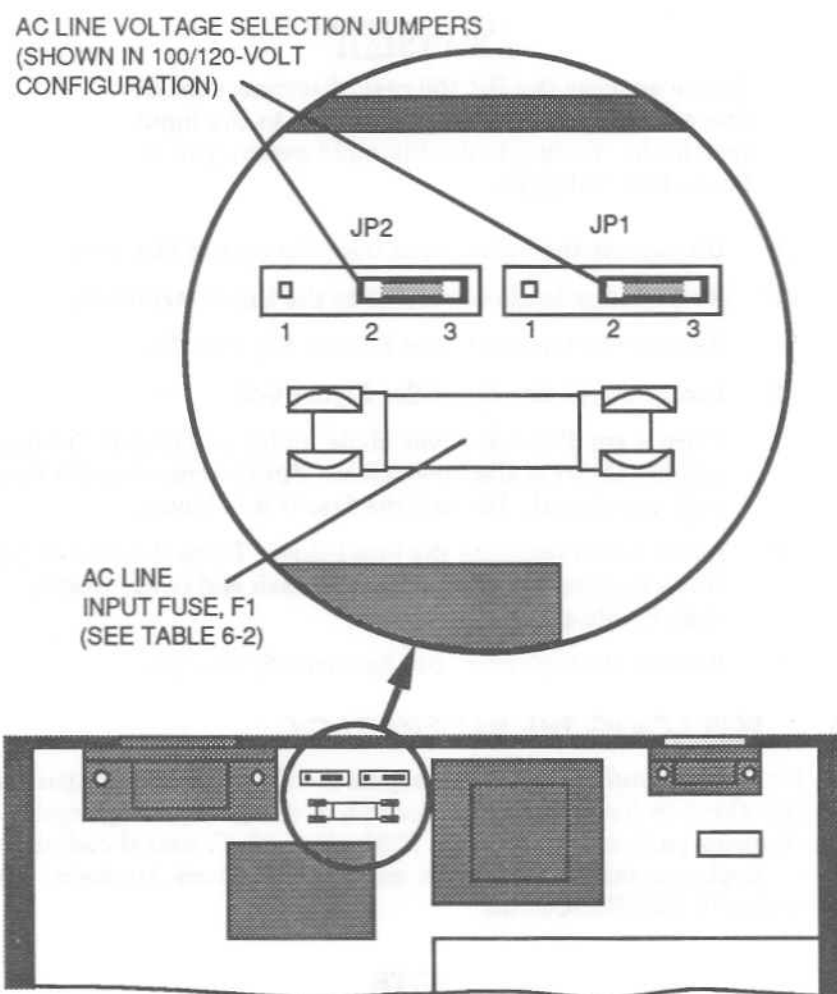

Figure 6-3. AC Line Voltage Selection Jumpers and Fuse
- (3) Locate the ac line voltage selection jumpers. See Figure 6-3.
- (4) Using Table 6-2, position the voltage selection jumpers for the applicable ac line voltage. If you change the line voltage configuration, be sure to replace the ac line fuse with one having the appropriate rating as shown in Table 6-2. To change the fuse, see Section 6.6 REPLACING THE AC INPUT POWER FUSE.
- (1) Disconnect the ac line cord from the rear of the unit.
- (2) Remove any leads connected to the input terminals.
- (3) Remove the top cover. See Section 6.5, step (2).
- (4) Locate the ac line fuse (See Figure 6-3).
- (5) Place a small screwdriver blade under one end of the fuse and pry it out of the fuse holder. Finish removing the fuse with your hand. Discard the fuse if it is blown.
- (6) Insert a new fuse into the fuse holder. Place the fuse on top of the fuse holder. Press down on each end of the fuse to snap it into place.
- (7) Replace the top cover. See Section 6.5, step (5).